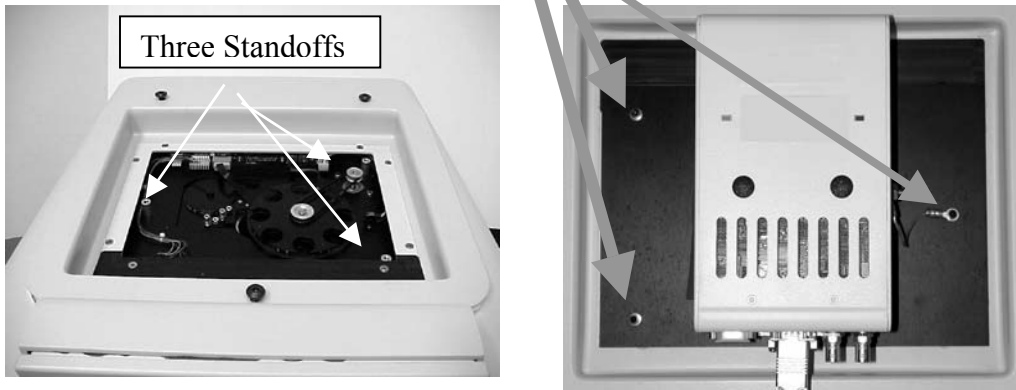

Figure 3.1.
3. Using the 3 cap-head screws and the 9/64" hex key (included), secure the camera adapter plate to the standoffs. Carefully tighten the screws evenly to form proper light seal. See figure 3.1 for details.
2. Couple the VersaDoc 5000 camera module to the enclosure as shown in the section 3.2.3 above. **See Figure 3.1 for details.**